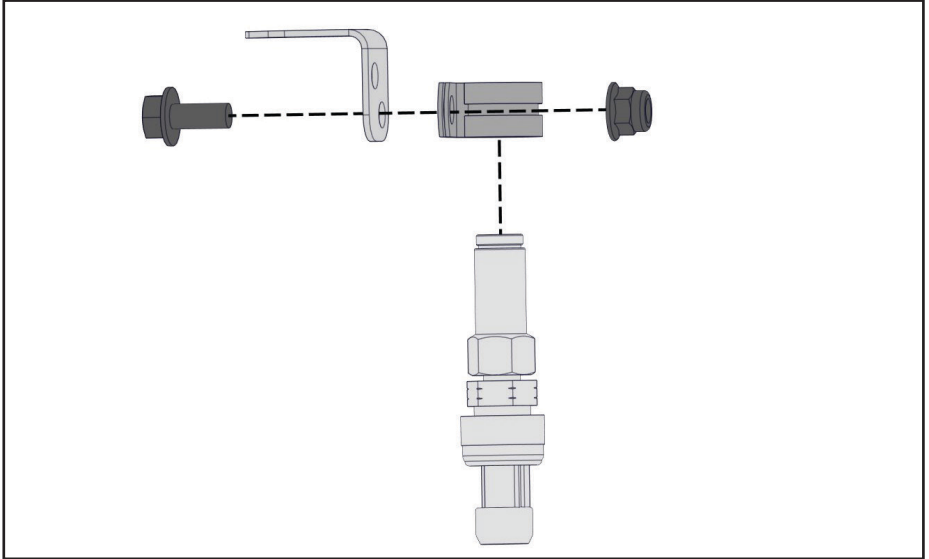

Figure 21 — Mount compressor
- Slide the pressure sensor assembly into the P-clip and mount it to the bracket using the supplied M6x14 mm bolt, and M6 nut (Figure 21).